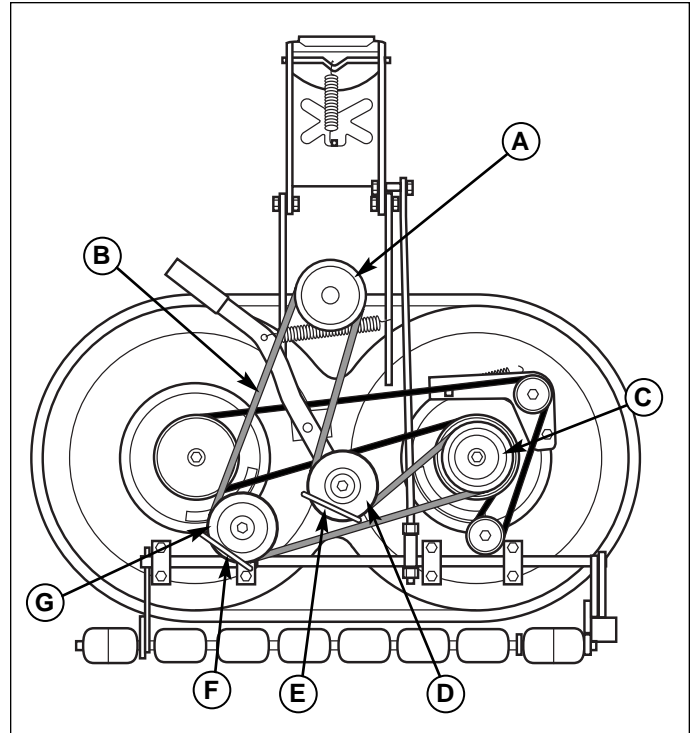

Figure 45. PTO Belt Replacement
3. Note the position of the idler pulley belt guides (E & F, Figure 45) when installed. Loosen the idler pulley capscrews and remove the belt from the idler pulleys (D & G).
4. Install the new belt (B) as shown. When the mower deck is installed on the tractor, the belt wraps around the PTO clutch pulley (A), backside idler pulley (D), mower deck drive pulley (C), and v-idler pulley (G).